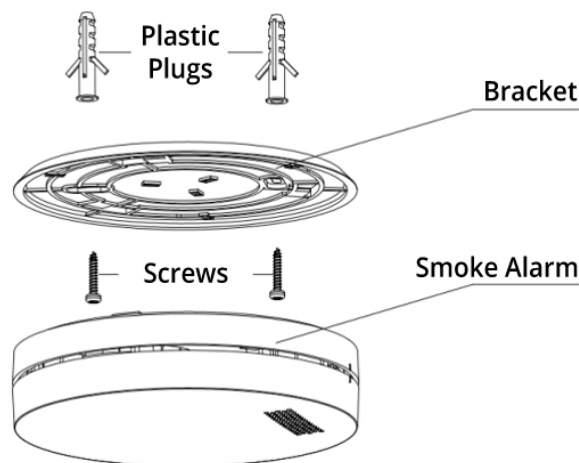

Figure 3
4. Screw the mounting bracket to the ceiling or the wall (see figure 3).